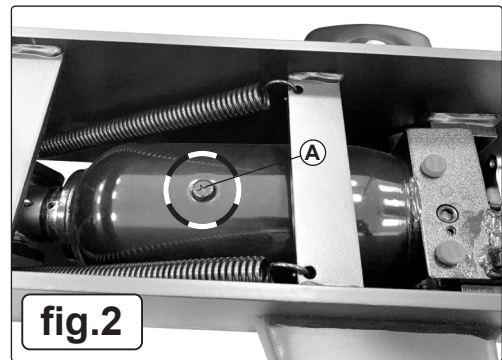

fig.2
Regularly check the oil level through the filler hole (see Fig. 2). With the piston fully retracted, remove the filler plug, the oil should be level with the bottom of the hole. Top up if necessary using a high-quality jack oil, such as Sealey Hydraulic Jack Oil. Do not use brake fluid. Filling the reservoir should not be necessary unless the jack has been reconditioned. If there is an external leak, have the jack repaired at an authorised service centre before refilling it.
Air bleeding after replacing or adding oil is necessary and should be performed as follows: Remove the cover plate and use a Phillips head screwdriver to loosen screw (A) on the piston. Lightly pump the handle three or four times while observing the oil flowing from the screw. If no bubbles are visible, the system is ready for use. If bubbles remain, continue to pump slowly and gently until they are no longer present. Once clear, tighten the screw clockwise with the Phillips head screwdriver. Then, pump the jack until the lift arm reaches its maximum height. Pull up on the release lever to lower the lift arm, and finally, replace the cover plate (see Fig. 2).